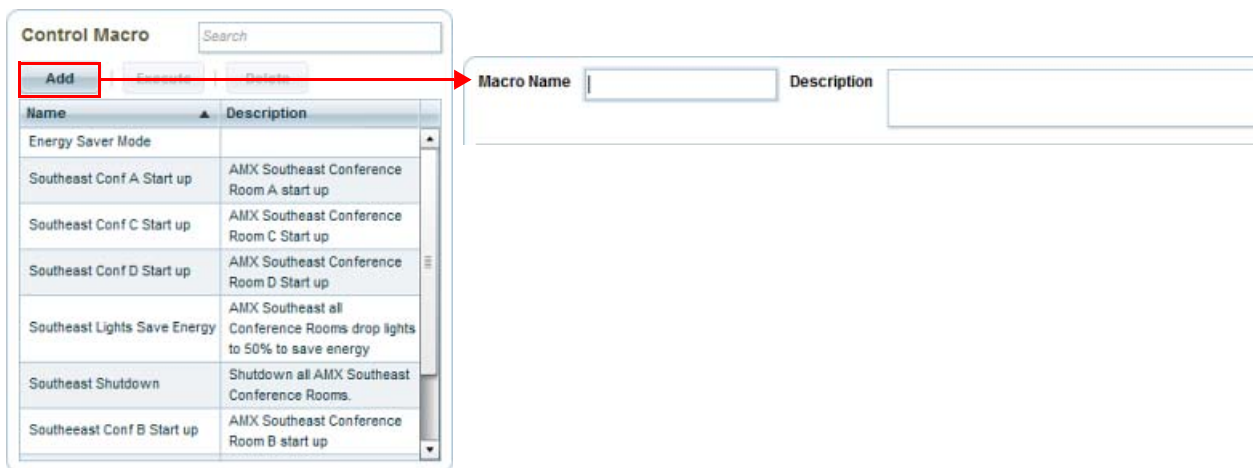

FIG. 285 Control Macro window - Add Control Macro fields
1. In the *Control Macro* window, click **Add**. This action invokes two new fields above the *Macro Methods* window: *Macro Name* and *Description* (FIG. 285):